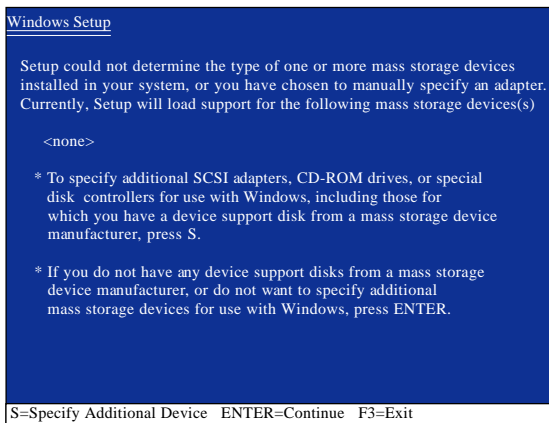

Figure 2
Step 2: When the controller menu (Figure 2) appears, remove the startup disk and insert a blank formatted disk. Select the controller driver by pressing the corresponding letter from the menu. Each item requires one floppy disk. For example, in the menu in Figure 2, to install Windows XP (32-bit) onto your RAID drives, press <3> to select **3)NVIDIA MCP72 and MCP78 Series RAID Driver Disk1** (you can label it as Disk 1). Your system will automatically zip and transfer the driver file to the floppy disk. When finished, insert the other floppy disk and select **4)NVIDIA MCP72 and MCP78 Series RAID Driver Disk2** (you can label it as Disk 2). Be sure to provide both of the two floppy disks for loading the RAID drivers when installing Windows XP (see the next section). Press <0> to exit this menu when all finished.
When a screen similar to that below appears, insert the first floppy disk (for example, NVIDIA MCP72 and MCP78 Series RAID Driver Disk1) containing the SATA RAID/AHCI driver and press <S> (Figure 2).